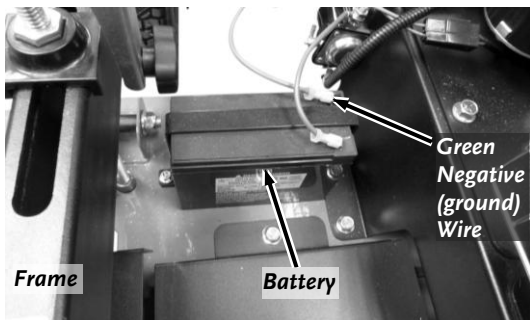

Figure 22
- Push the negative Wire Connector fully onto the negative terminal of the Battery (**Figure 22**).